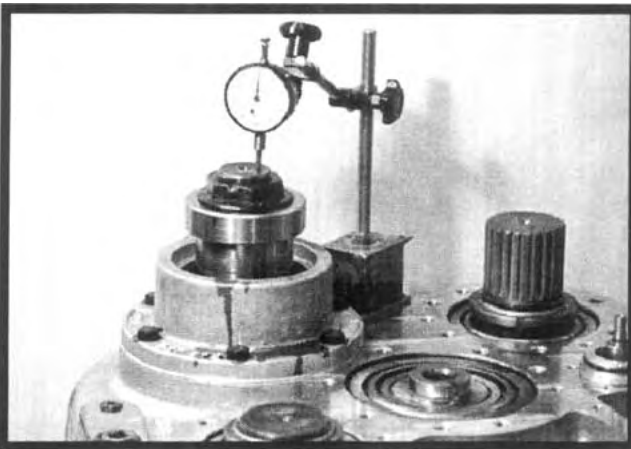

Figure 6.40
18. Pry the rear output shaft up and tap down several times to seat the bearing cups. Mount a dial indicator as shown in Figure 6.40. Pry the shaft up and down and note the amount of end float.